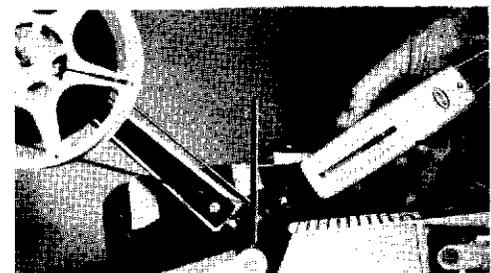

Figure 3-29a. Using Film Tension Gage (p/n T-38000-S)
- * e. Film Tension is adjusted with the top nut under the spring using Film Tension Gage (P/N T-38000-S). See Fig. 3-29a.